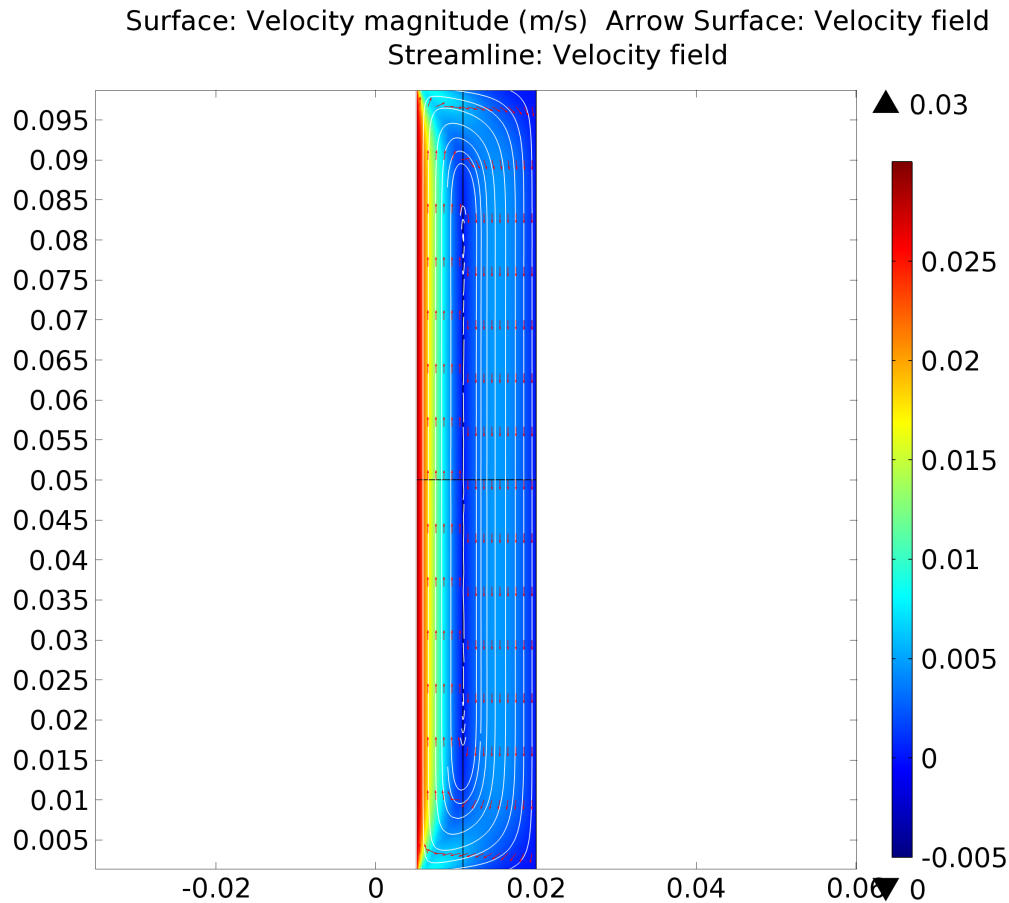
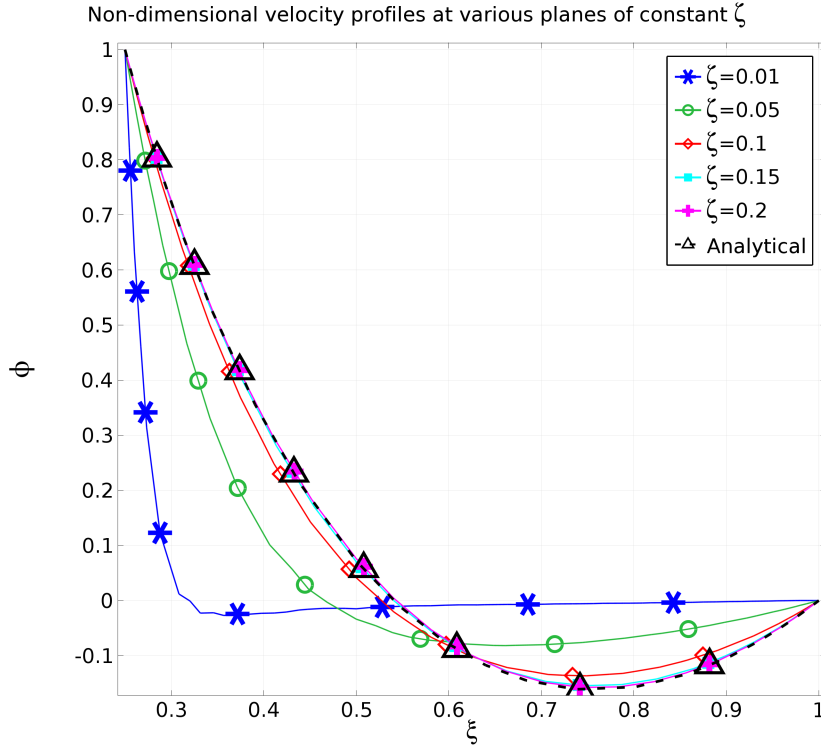

Figure 2: Streamlines
Figure 3: Velocity profiles at various values of ζ as a function of ξ .
1. A Surface plot of the velocity field, with a colour bar is immediately generated by COMSOL when the problem is solved. To obtain a streamline plot, right-click on Velocity and add Streamline. Choose the settings given in the problem to display the figure displayed as Fig. 2.
Comparison of the figure below with the streamlines in Fig. 2 (and the profiles in Fig. 3) shows that as ξ increases from 0 (at the rod), at the radial location $\xi \approx 0.5$ (or $r = 0.01$), the fluid changes from moving upwards to downwards. We would therefore expect the velocity of the fluid to be small. This is seen in the figure